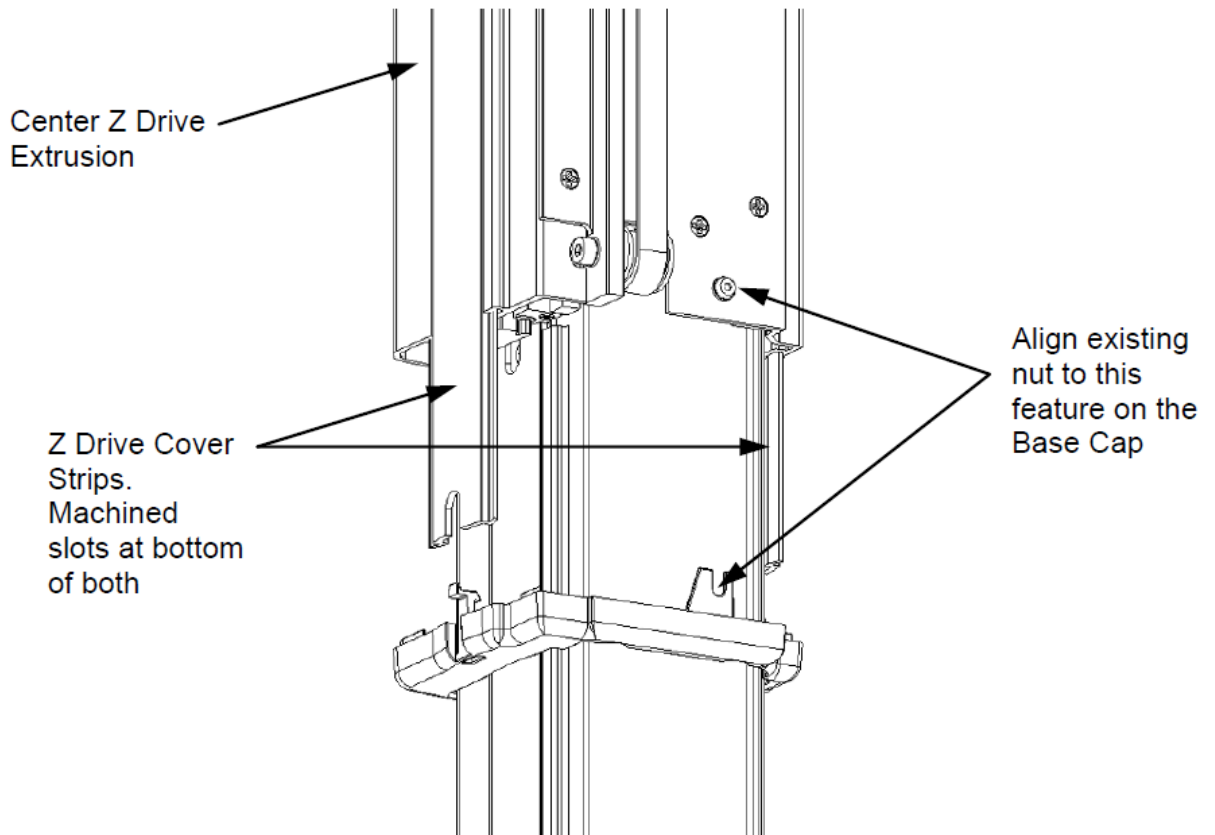
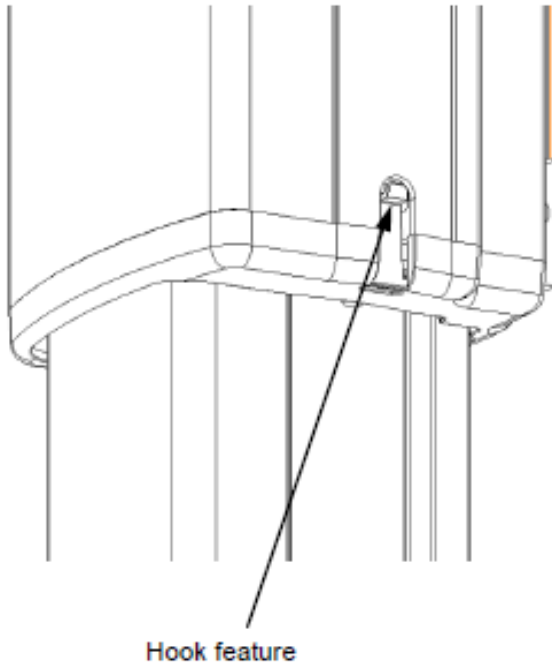

Figure R-2: Removing the Z Drive Cover Strips
Figure R-4: Replacing the Base Cap
3. Remove the two Transport Arm Z Cover Strips (23506630) from the Center Z Extrusion (Figure R-2).
When replacing the rotator drive, ensure that the cover strip is properly covers the flex cable (Figure R-2), the drive is secured two M3x5 BHCs, two M2.5x6 PFHS, and Loctite 222. The base cap includes a hook which must be clipped into the slot shown in Figure R-4. Use Loctite 425 on the M2.5x3 BHCS.